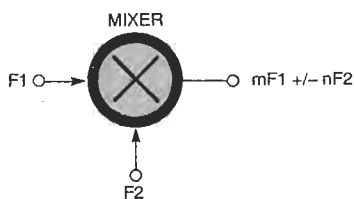

Fig. 3. In a basic mixer circuit, the sum ( $F_1 + F_2$ ) and difference ( $F_1 - F_2$ ) of two input frequencies appear at the output.
**Frequency Translation.** The process of frequency translation or conversion is called heterodyning. When two frequencies ( $F_1$  and  $F_2$  in Fig. 3) are mixed together in a nonlinear circuit, a collection of different frequencies will appear at the output. Those frequencies are characterized as  $mF_1 + nF_2$ , where  $n$  and  $m$  are integers or zero (0, 1, 2, 3...). For the sake of simplicity, we normally consider only the cases where  $m$  and  $n$  are either 0 or 1, so the output frequencies are  $F_1$ ,  $F_2$ ,  $F_1 - F_2$  (difference), and  $F_1 + F_2$  (sum). To make a superheterodyne receiver (the most common modern form), select either the sum ( $F_1 + F_2$ ) or difference ( $F_1 - F_2$ ) frequency as the receiver's intermediate frequency (IF). The NE602 contains a double-balanced mixer, so when it is properly impedance matched, it suppresses the two input frequencies ( $F_1$  and  $F_2$ ) at the output, and only produces the sum and difference frequencies.